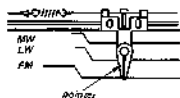

Fig. 2-6.
2. Set the dial drum adjusting the two machine screws (A) so that it shows FM band and that the tip of the pointer is on the line of FM band as shown in Fig. 2-6.